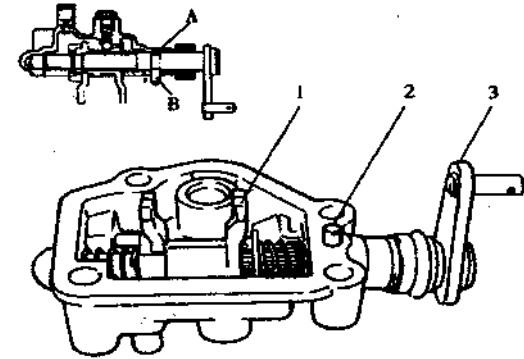

Fig.3.2-3
③ Insert the gear shifting handle axle into the gear shifting cover body until groove “A” on the axle aligns with pin hole “B” on the gear shifting cover body. The lever arm of fork arm and the arm center line on the gear shifting handle axle must be on the same level. (Please refer to Fig.3.2-3)
④ Install gear shifting arm axle and screw it to the specified torque 13-20N • m.